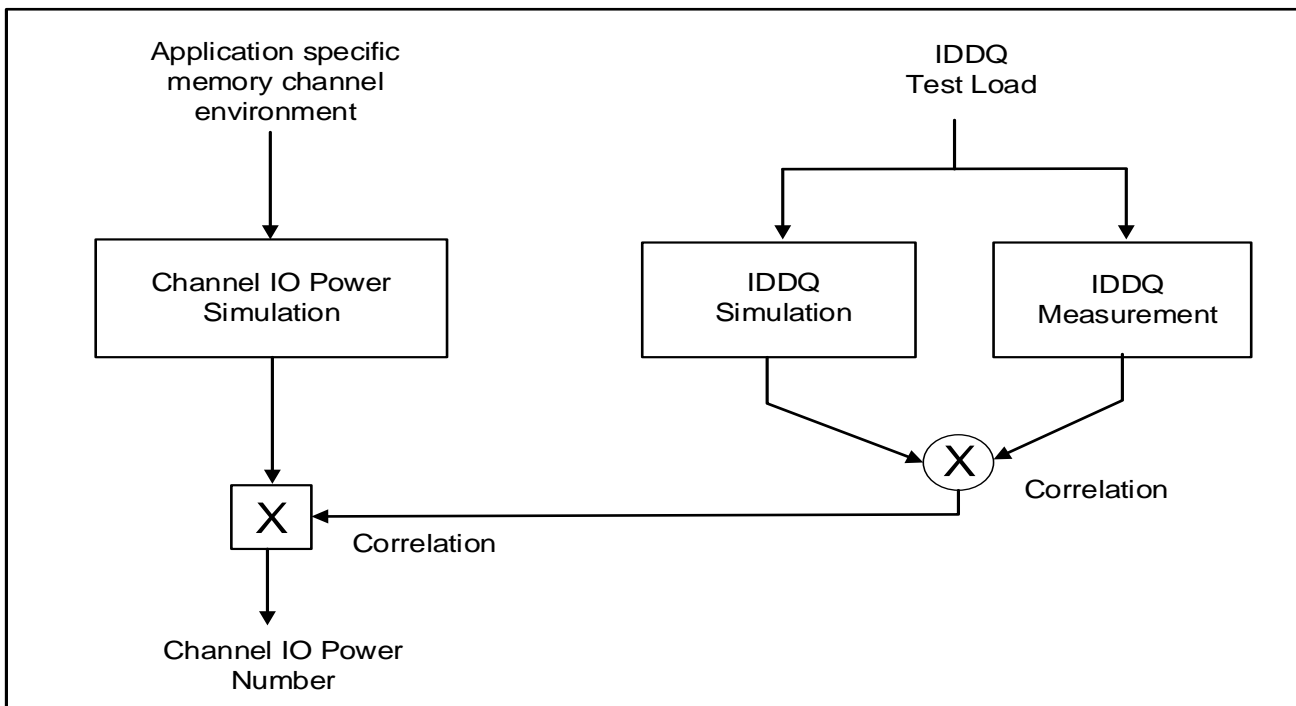

Figure 9-2. Correlation from simulated Channel IO Power to actual Channel IO Power supported by  $I_{DDQ}$  Measurement.
**Attention:** IDDQ values cannot be directly used to calculate IO power of the DDR3 SDRAM. They can be used to support correlation of simulated IO power to actual IO power as outlined in Figure 9-2. In DRAM module application, IDDQ cannot be measured separately since VDD and VDDQ are using one merged-power layer in Module PCB.